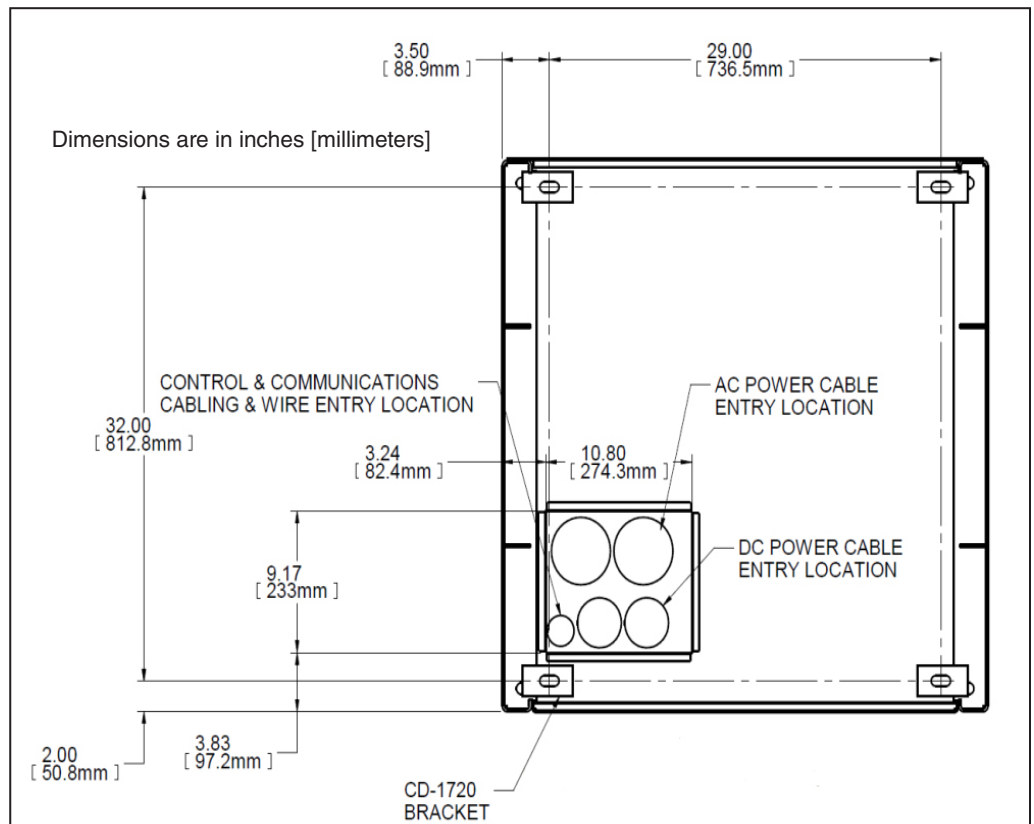

Figure 4. Conduit and bracket measurements for pad-mounting.
- (d) Properly place the PCS on the concrete pad. See Figure 4 for the location of cable entry conduit and mounting bracket installation areas. For further details, refer to drawing PEA-1610-4-IN and the other project specific lifting drawings supplied with the PureWave SMS-250.